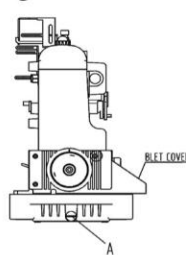
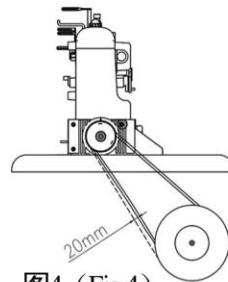

图3 (Fig.3)
图4 (Fig.4)
2、马达转向为顺时针方向，皮带的松紧度以手指向内压下20mm宜为，同时为安全起见，把皮带轮盖必须锁上。(图3&4)
2、Mount the machine head over the rest board Connect the machine hand wheel to the clutch motor with the V-belt. Adjust the tension of the V-belt so that it can be about 20 mm bent inward when you presse the center of V-belt and make sure the clutch motor turning direction is clockwise as shown Figure 3. Install the belt cover according to Figure 4.
(2) 润滑油的更换 (图3)
2. Lubricant oil change: (Fig.3)